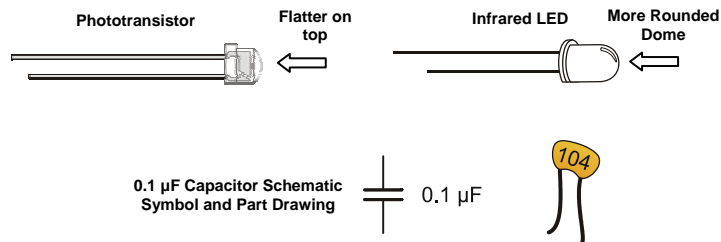

Figure 6-8
Let's use Ohm's Law to calculate V_{P6} in with the phototransistor letting two different amounts of current flow through the circuit: 1.75 mA, which might happen as a result of fairly bright light, and 0.25 mA, which would happen with less bright light. Figure 6-8 shows the conditions and their solutions. When you try these calculations, make sure to remember that milli (m) is thousandths and kilo (k) is thousands when you substitute the numbers into Ohm's Law.
In this activity, you will need two phototransistors and two 0.1 μF capacitors. Figure 6-8 shows drawings of both.
- ✓ Look carefully at Figure 6-8 and make note of the difference between a phototransistor and an infrared LED.
- ✓ Gather the parts listed below using Figure 6-8 as a guide for finding the phototransistors and 0.1 μF capacitors in your parts kit.
- (2) Phototransistors